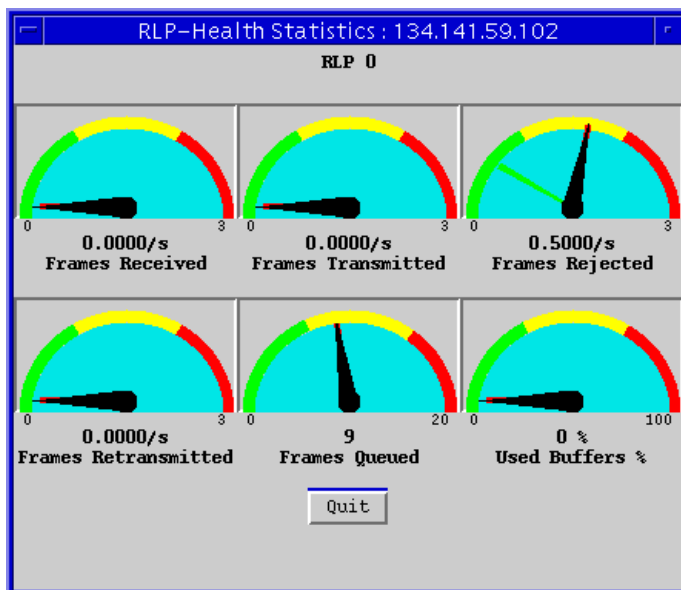

Figure 2-12. The RLP Health Statistics Window
2. Drag down to **Health**, and release. The RLP Health Statistics window, Figure 2-12, will appear.